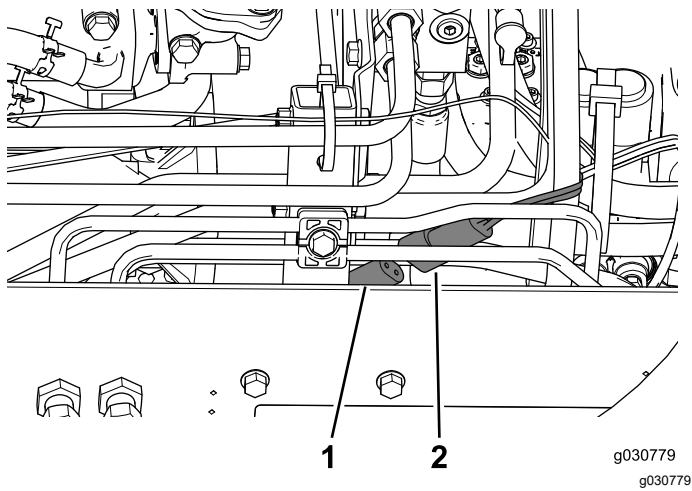

Figure 50
2. Connect the cab power connector to the connector on the right side of the machine (Figure 50).